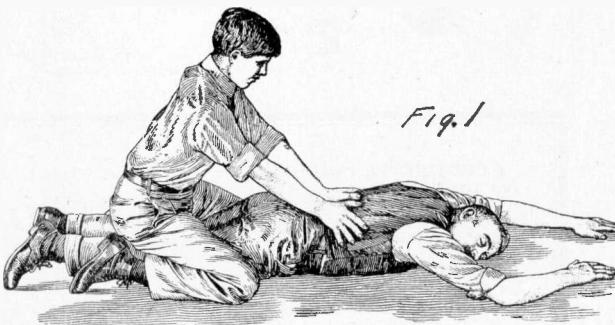

Fig. 1
(a) Lay the subject on his belly, with arms extended as straight forward as possible and with face to one side, so that nose and mouth are free for breathing (see Fig. 1). Let assistant draw forward the subject's tongue.
(b) Kneel straddling the subject's thighs, and facing his head; rest the palms of your hands on the loins (on the muscles of the small of the back), with fingers spread over the lowest ribs, as in Fig. 1.
(c) With arms held straight, swing forward slowly so that the weight of your body is gradually, but not violently, brought to bear upon the subject (see Fig. 2). This act should take from two to three seconds. Immediately swing backward so as to remove the pressure, thus returning to the position shown in Fig. 1.
**ELECTRIC FLASHLIGHT** (Fig. 1)—A new flashlight design having the bulb placed cross-wise.